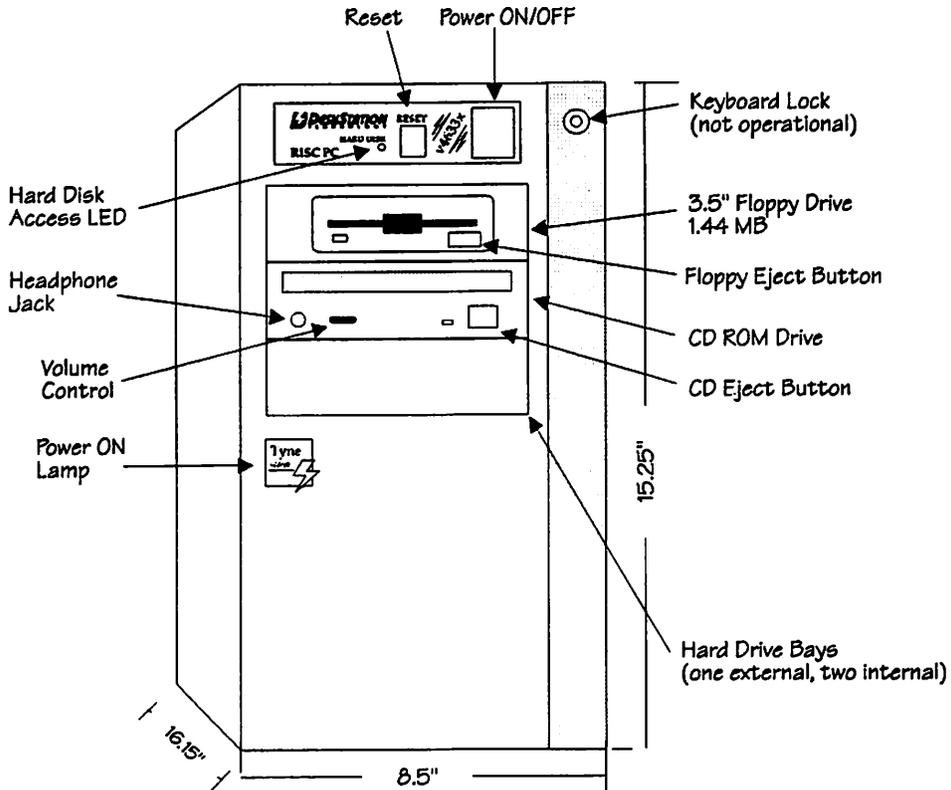

Figure 1-1
1. Take a moment to review Figure 1-1 and 1-2. By focusing your attention on the “rear view” of the system, it will become apparent as to where each cable provided with your system should be plugged. On every system these cables include: power, mouse and keyboard. Some of our systems include other peripherals and devices. For these machines, other cables may be included.